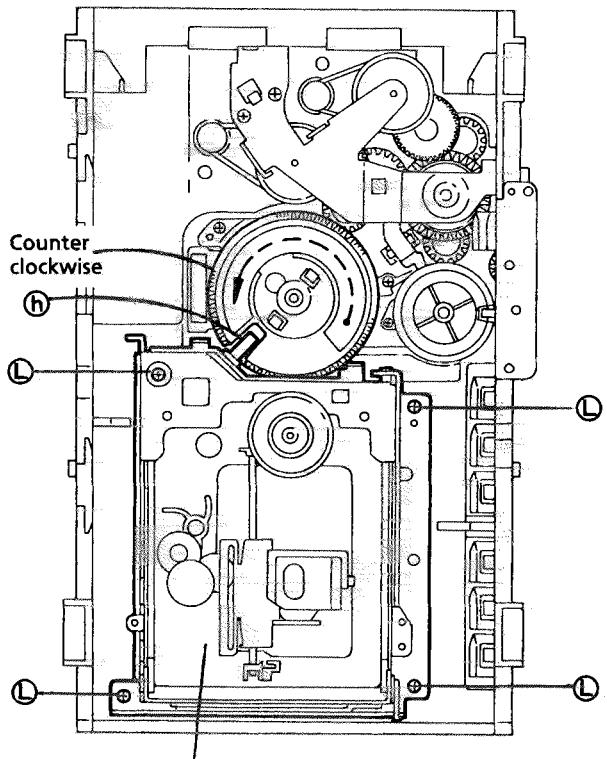

Fig. 29
2. Rotate the Cam R1, R2 ass'y counterclockwise so that CD mech. ass'y's shaft (h) is positioned as shown in Fig. 29.
3. Remove 4 screws (L) securing CD mech. ass'y. (See Fig. 29.)